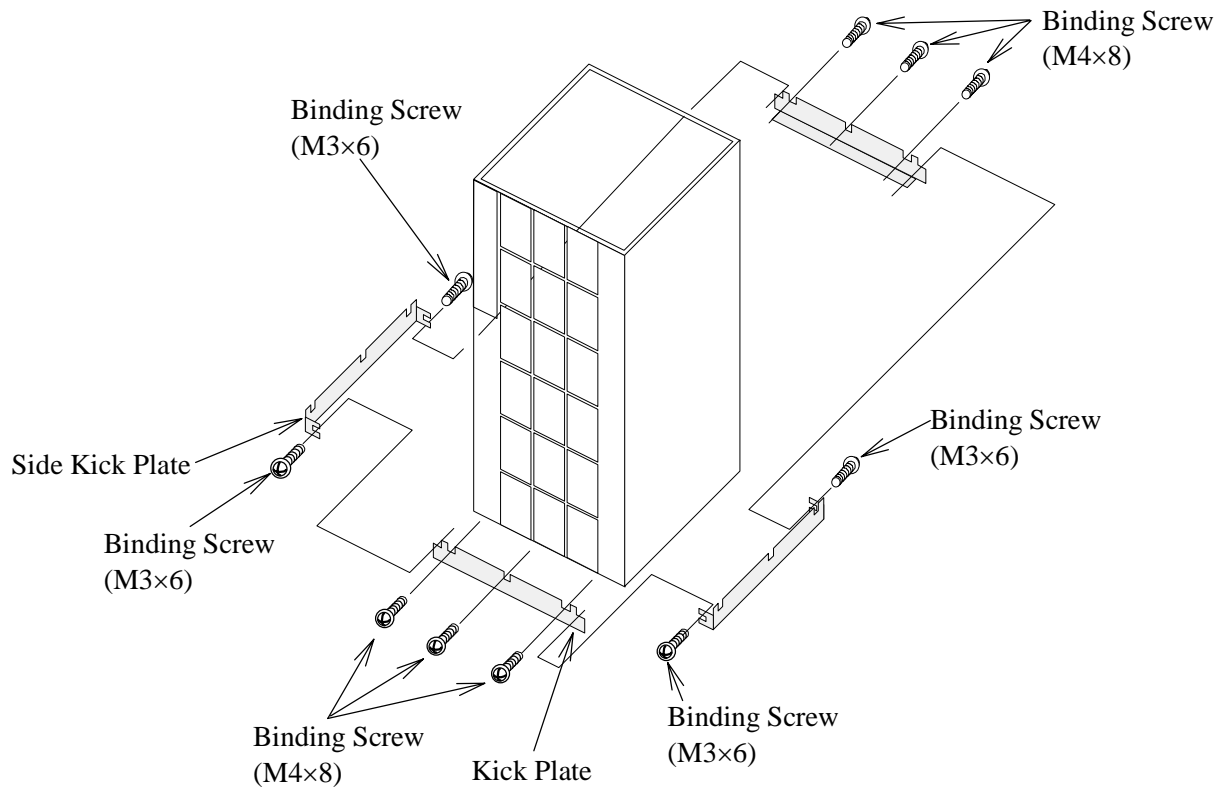

Fig. 3.3.3-1 Installation of Kick Plate
1. Attach the kick plates with the binding screws. See Fig. 3.3.3-1.